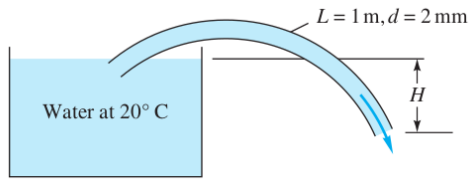

Fig. 6.2
6.2 Water at 20°C is to be siphoned through a tube 1 m long and 2 mm in diameter, as in Fig. 6.2. Is there any height, H , for which the flow might not be laminar? What is the flow rate if $H = 50\text{ cm}$? Neglect the tube curvature.